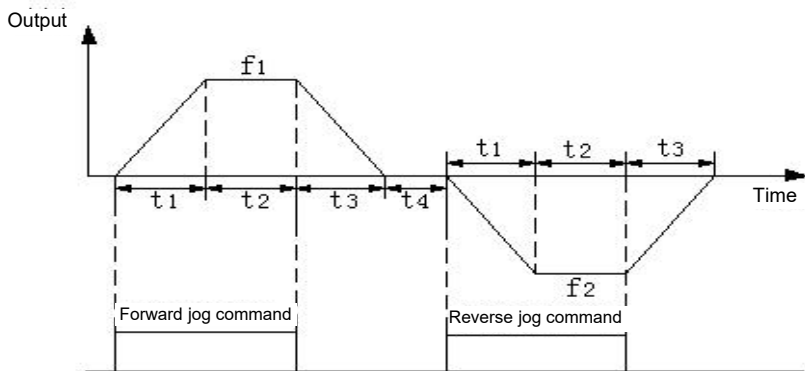

Figure 01-5 JOG Operation Diagram
01.20 ~ 01.24 defines relevant parameters during jog operation. As shown in fig. 01-5, t_1 and t_3 are the actual jog acceleration and deceleration time; t_2 is JOG time; t_4 is jog interval time (01.24); f_1 is the running frequency of forward jog (01.20); f_2 is the reverse jog operation frequency (01.21). The actual jog acceleration time t_1 is determined according to the following formula: